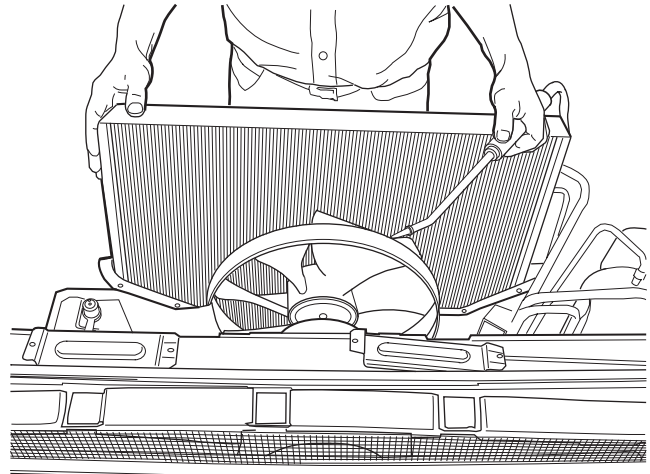

FIGURE 25 — CLEANING COILS
2. With a tank sprayer or a trigger spray extension tube, spray coil cleaning solution evenly across the coils, making sure coils are thoroughly saturated. See Figure 25. Refer to instructions on the cleaning solution containers for best results. **Do not use a high-pressure sprayer.**